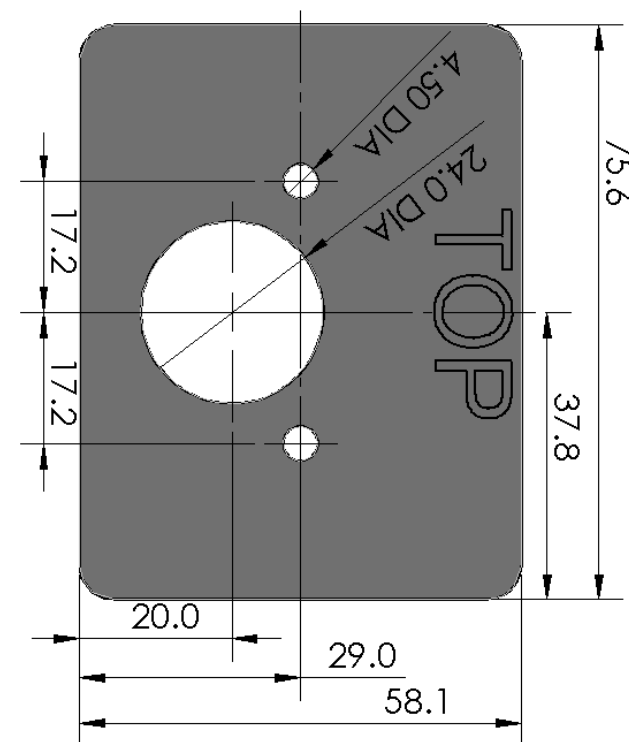

Figure 5 – ST Hardwired Remote
2. Using the remote, turn on the light by depressing the on/off key. See Figure 5. The dash remote keys will be backlit when the light is on.